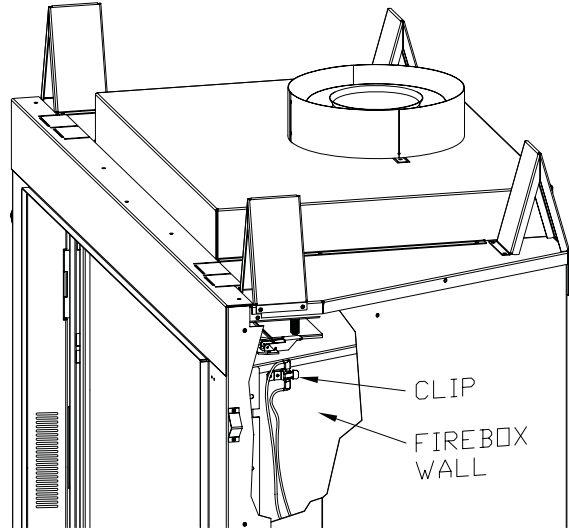

Figure 29 - Blower Access Plates
12. Snap the fan limit switch behind the clip already assembled to the side of the firebox on the front right hand side. See Figure 29.